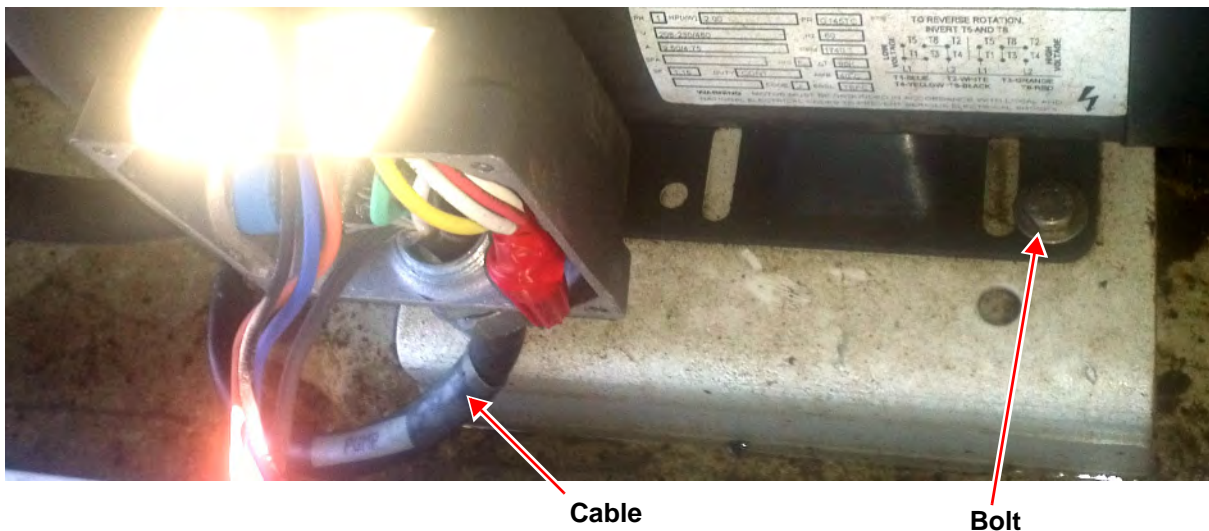

Figure 6: Cable and securing bolts for the HPU motor shown. (Three additional bolts not pictured)
3. Remove cable 257/PUMP and the four bolts securing the motor to the HPU (See Figure 6).